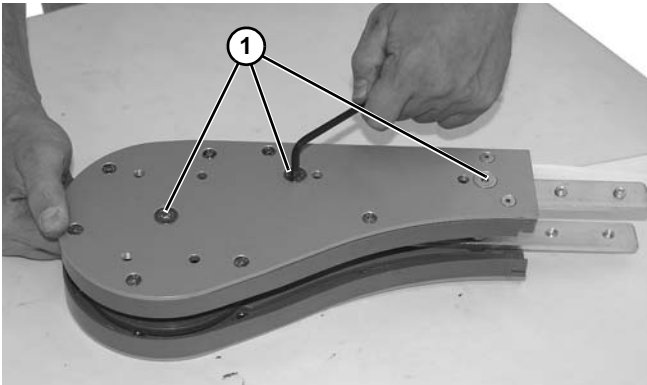

Figure 70
1. Remove three flat head screws (Figure 70, item 1).